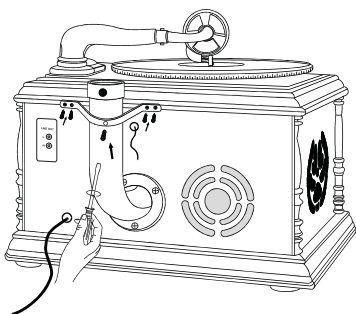

Fig7
- 7.) Look at Fig7. Match the holes on the U-type(B) bracket according with the holes on the PTCDCS3UIP host cabinet as shown. Rotate clockwise four screws D(H) into the holes on the sides and one screw B(F) inot the middle and tighten.